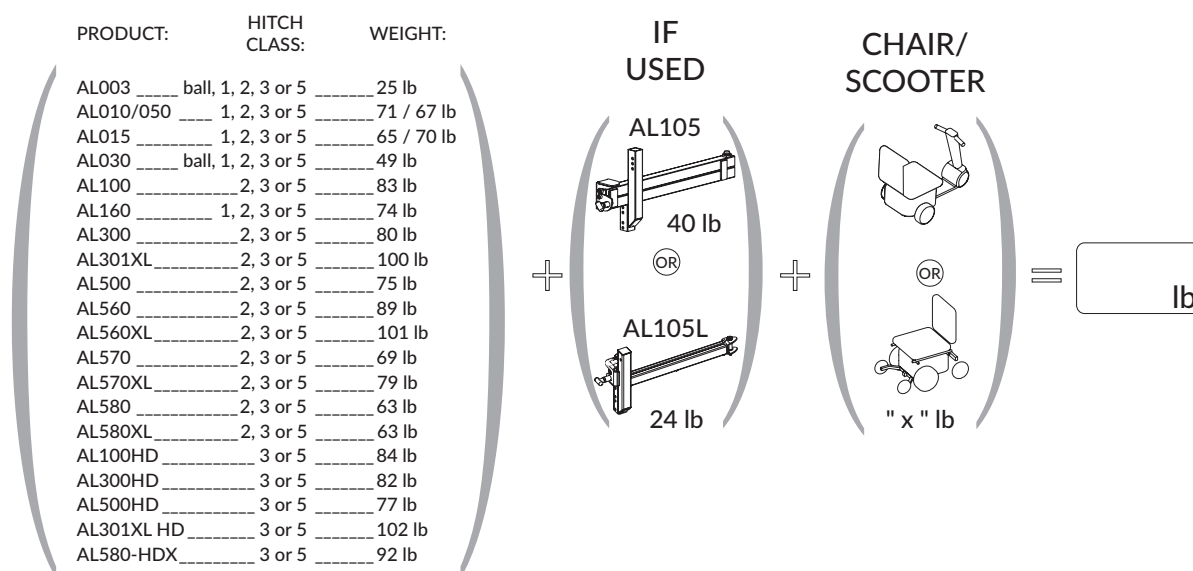

Figure 3-1
3. Add the combined weights of the lift, mobility device and, where applicable, the swing-away option. Ensure that the total weight does not exceed the hitch's recommended tongue weight. Many hitches are available on the market, and all are designed to bear a specific amount of weight. **See Figure 3-1.**